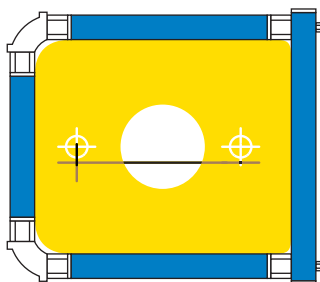

Fig. 1
3. Align the screen registration marks to your standard pallet markings. (Fig. 1)